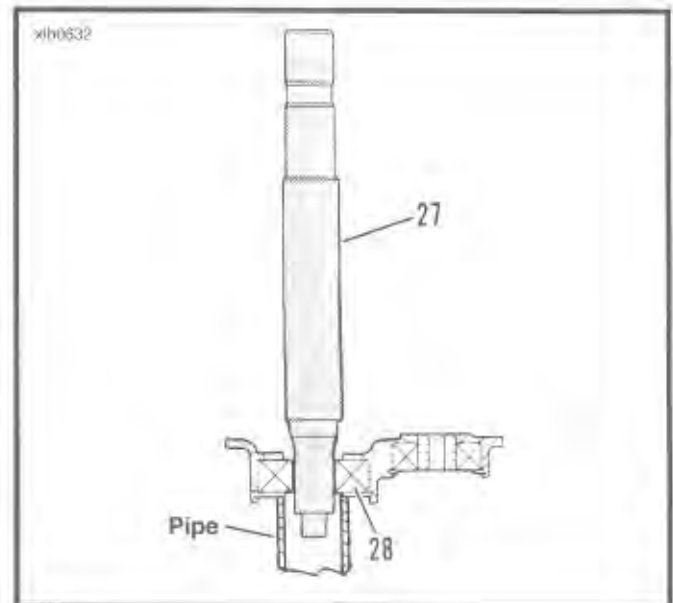

Figure 6-36.
1. Find a section of pipe that matches the inner race of bearing (28).
2. See Figure 6-36. Place the door assembly, outside downward, on a press with the inner race of bearing (28) resting on the section of pipe. Insert the splined end of the shaft into the bearing and hold in a vertical position. Press the shaft into the bearing until the bearing bottoms against the shaft shoulder.